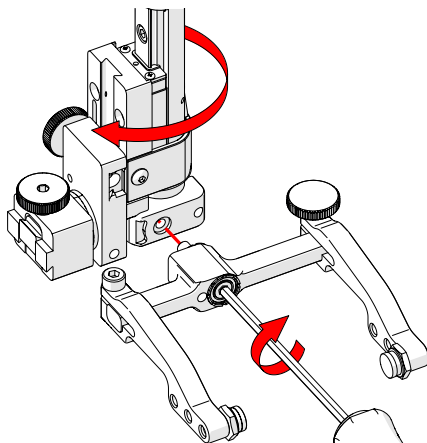

Fig. 146 - Screw yoke to opposite side
6. Mount the yoke to the opposite side of the base using the supplied 3 mm hex driver (Fig. 146).